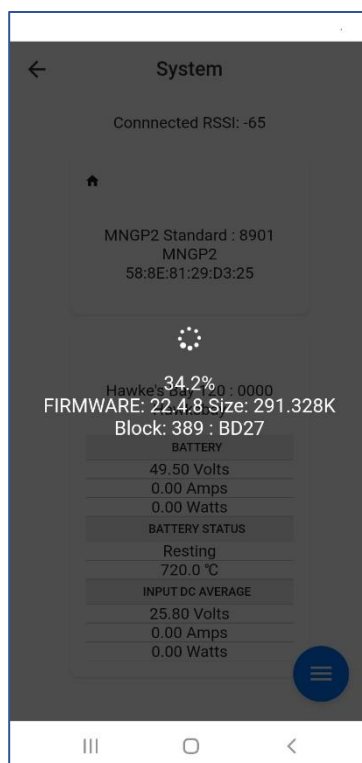

Figure 18
9. FW app will show transfer progress, **Figure 18**.